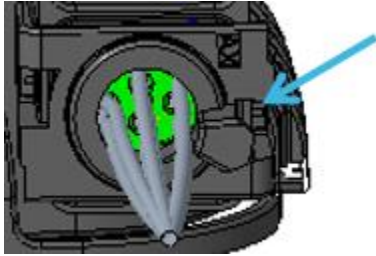
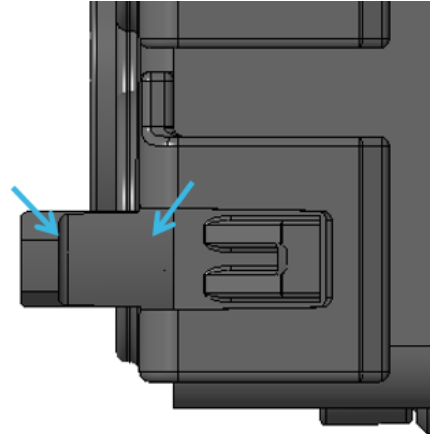

Figure 64: Cable tie feature (protrusion) call out
Figure 65: Cable tie notch for alignment
Assemble a cable tie (not provided by TE) to the LV STRAIN RELIEF by first wrapping the cable tie around the protruded feature (Figure 64) of the LV seal retainer and aligning in the notch on the protruded feature (Figure 65). Next, wrap the length of the cable tie around the (7) 0.35mmsq cables and insert the tapered end of the cable tie into the cable tie's receiving end. Tighten by pulling the tapered end of the cable tie through the receiving end until the cables are secured to the LV STRAIN RELIEF. Assembled wire tie shown in Figure 66.